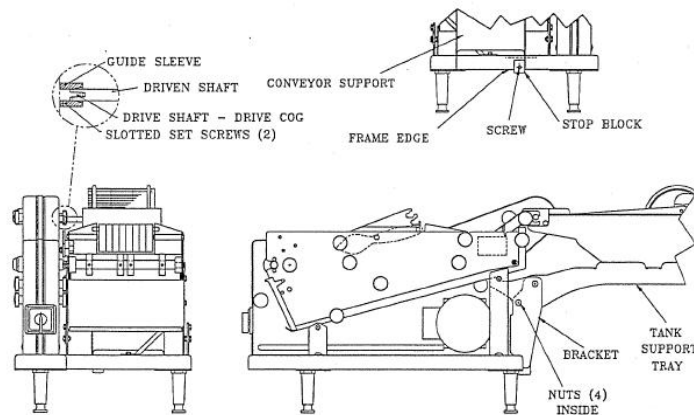

Figure 15
1. Loosen the guide sleeve by backing off the two (2) slotted screws that hold the guide sleeve in position over the drive shaft.
3. Check the joint alignment while the drive cog is vertical (**see Figure 15**). If the shafts are aligned, the guide sleeve should slide freely over the joint.